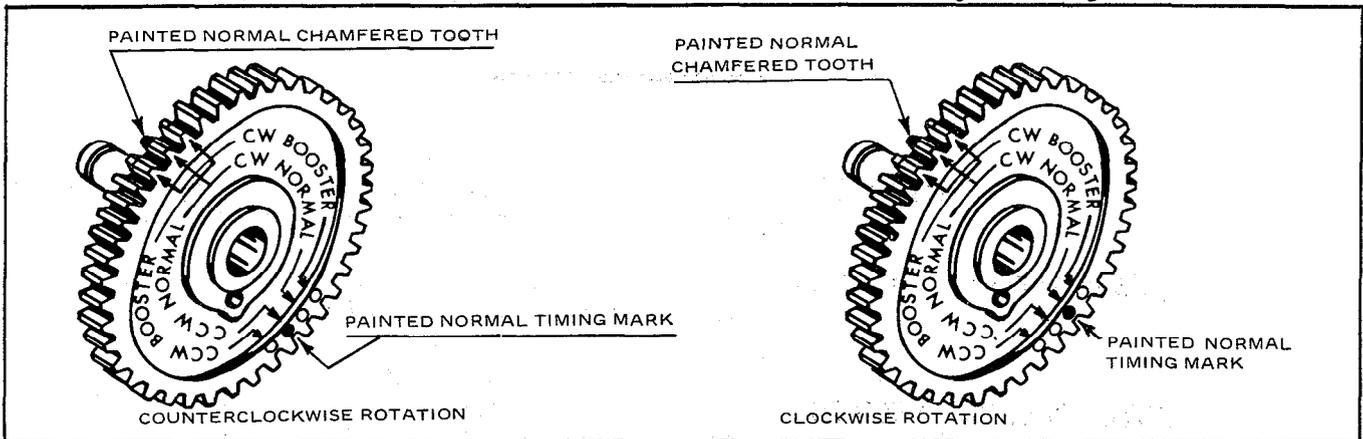
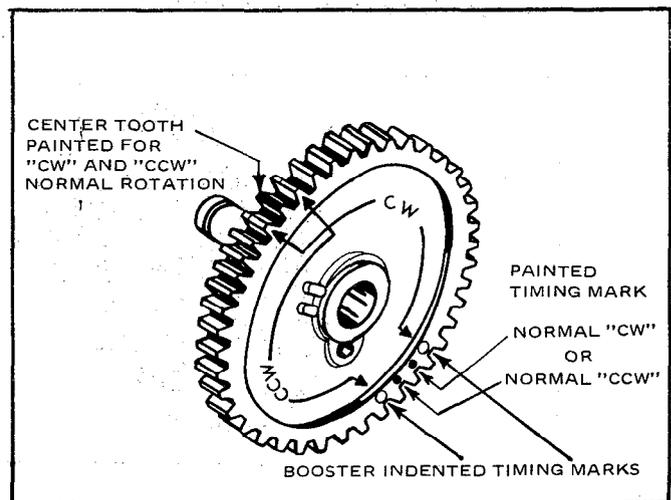

Figure 2. Modified 6 Cylinder Gears P/N 10-157197
Figure 4. Present Production Distributor Gear Assembly with Additional Timing Marks Painted
- b. Locate normal timing tooth between CW and CCW booster chamfered teeth and paint this tooth and the applicable inner timing mark with red Dykem or red lacquer in accordance with figure 2 or figure 4 for appropriate gear.
- b. Locate normal timing tooth between CW and CCW booster chamfered teeth and paint this tooth and the applicable inner timing mark with red Dykem or red lacquer in accordance with figure 4.
Dykem or red lacquer as illustrated in figure 4.